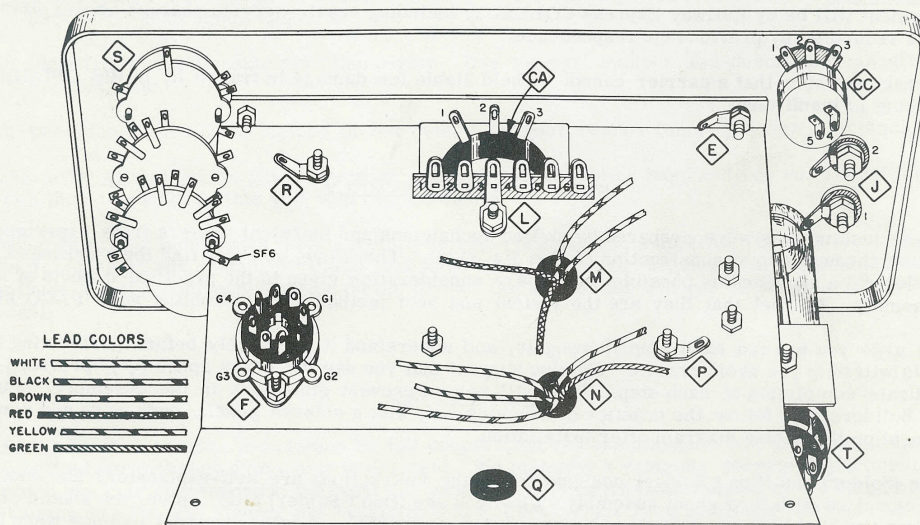
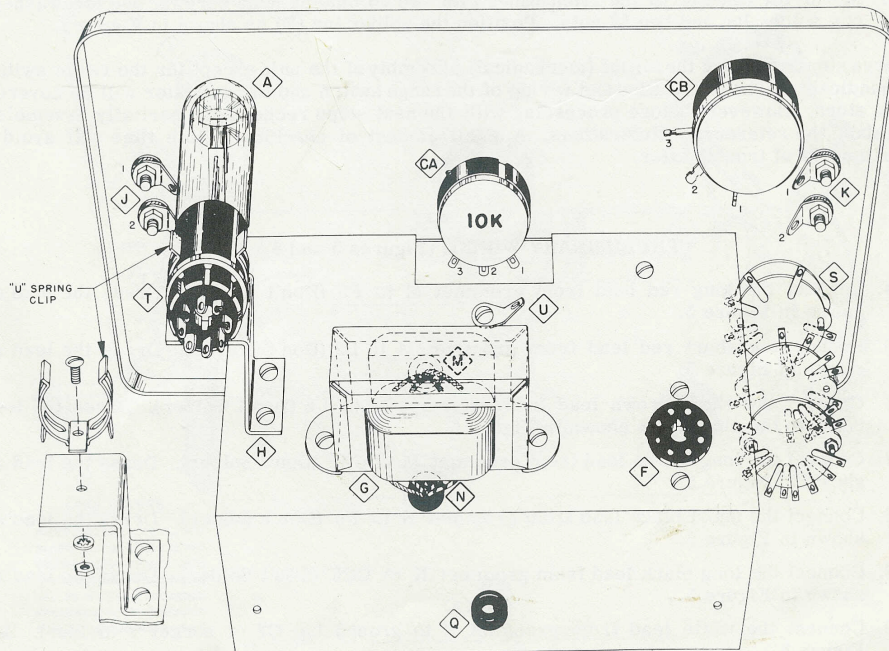
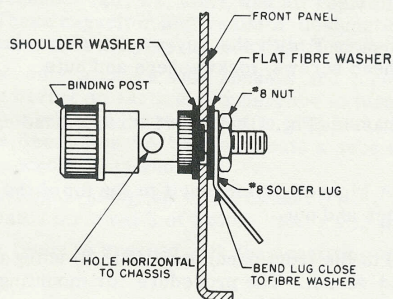

Figure 1
Figure 2
Figure 3 "SEE BLOW-UP NO. 1"
- () 1. Insert the three 3/8" rubber grommets in holes M, N and Q (Fig. 1).
- () 2. Mount the transformer T1 at G (Fig. 2). Push the two black, the one yellow, the one white and the one green lead through the grommet at N. Then push the two red and the two brown leads through the grommet at M. Mount the transformer to the chassis with two #6 binding head screws, one lockwasher and two #6 nuts. On one screw use a #6 solder lug (P) instead of a lockwasher as shown in Figure 1.
- () 3. Mount the Z bracket at H with two #6 binding head screws, lockwashers and nuts (Fig. 2).
- () 4. Slip a #6 solder lug on a #6 binding head screw. Pass the screw through hole U from the top of the chassis and mount the 6-lug terminal strip "L" under the chassis on the same screw using a #6 lockwasher and nut. Orient the solder lug on the top of the chassis and terminal strip on the bottom of the chassis as shown in Figures 1 and 2.
- () 5. Place the saddle mount octal socket in hole F with the key-way as shown in Figure 1. Mount the socket using two #6 binding head screws, lockwashers and nuts.
- () 6. Mount a #6 solder lug at R under the chassis (Fig. 1) with a #6 binding head screw, and nut.
- () 7. Position the "U" spring clip as shown in Figure 2 and mount it to the top of the Z bracket with a #6 binding head screw, lockwasher and nut.
- () 8. Mount the red binding post (P20-189-1) to the front panel at J1 (Fig. 2) using a shoulder-washer, flat washer, #8 solder lug and #8 nut. The procedure for mounting a binding post is shown in Figure 3.
- () 9. Mount the three black binding posts (P20-189) at J2, K1, and K2 as shown in Figure 3.
- () 10. Bend over the positioning tab on the 1K control (P17-212) R14 (with switch) and mount it at CC (Fig. 1) using the control lockwasher, control bakelite washer and control nut. The procedure for mounting the control is shown in Figure 4. Position the control as shown in Figure 1.
- () 11. Bend over positioning tab on the 10K wirewound control (P17-213) R11 and mount it at CA (Fig. 2) using the control lockwasher, control bakelite washer and control nut. Position the control as shown in Figure 2. Make sure you select the 10K control (R11) for this step not the 100K ohm control (R15).
- () 12. Break off the bakelite positioning tab and mount the 100K wirewound control (P17-214) R15 at CB (Fig. 2). Position the control as shown in Figure 2.
- () 13. Mount the chassis to the front panel with two #6 binding head screws, one lockwasher, one solder lug and two #6 nuts. Position the solder lug (E) as shown in Figure 1.